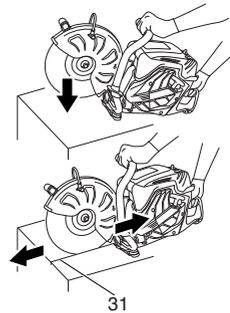

Fig. 29
- Cut a straight shallow line (31) to the range to be cut. (Fig. 29)